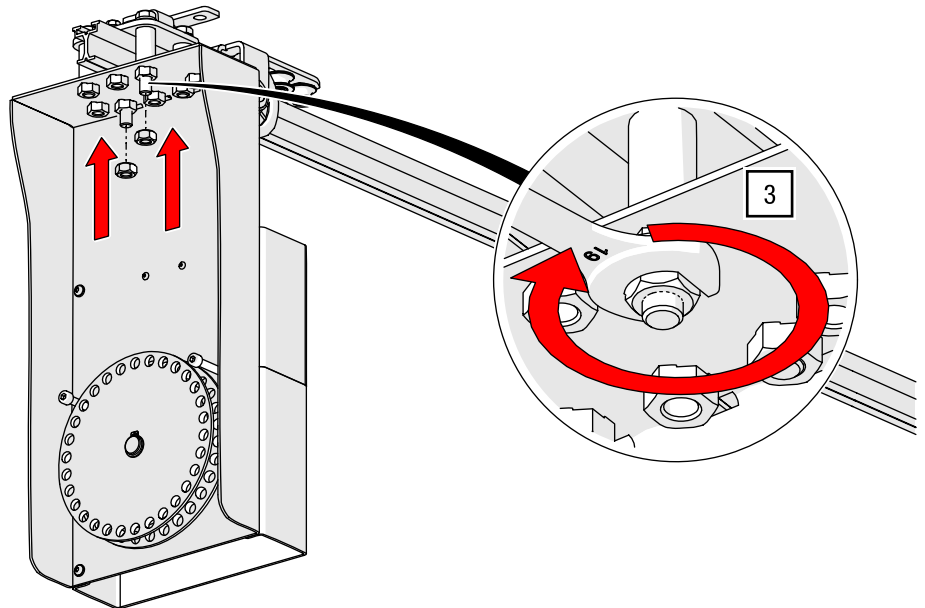

Fig. 118: Manual drive ROPE-DRIVE – Lock connection with mounting plate
3. Lock the screw connection from the inside with two M12 nuts and a 19 mm open-end wrench to 93 Nm (see Fig. 118).